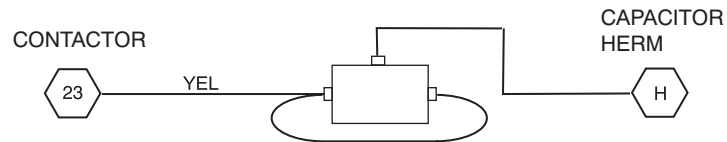

Fig. 2 - Typical Wiring
4. Attach the yellow wire and blue wire from kit to middle and end of thermistor. See Fig. 2.
6. Connect the other end of the yellow wire from Step 4 to terminal 23 of the compressor contactor. See Fig. 2.
7. Connect the other end of the blue wire from Step 4 to terminal H of the compressor capacitor. See Fig. 2.